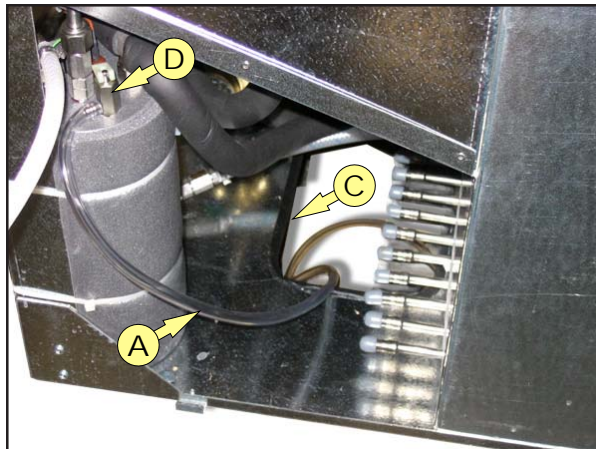

FIGURE 2
2. Route the carbonator tank purge tube (A) to the opening beneath the ice bin drain elbow (C). Be sure not to collapse or kink the carbonator tank purge tube (A) during routing from the unit to the drain. The purge tube (A) is connected to the pressure relief valve (D) on the carbonator tank and must be routed to a drain. (see figure 2)